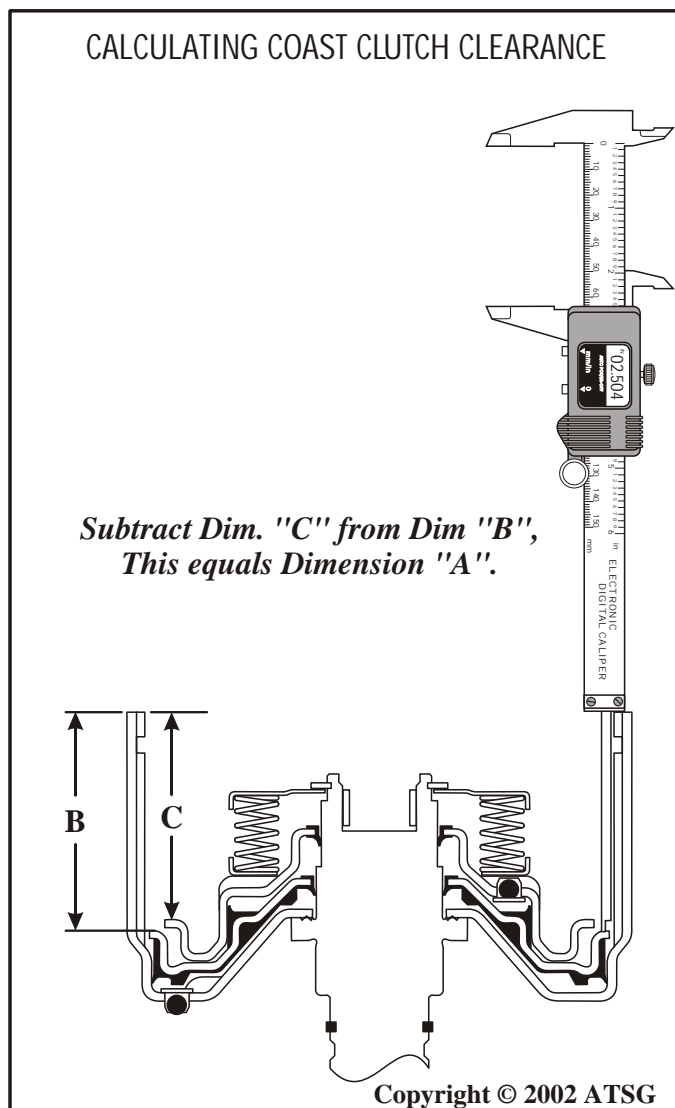

Figure 89
17. Measure from the top of the forward clutch housing to the top of the coast clutch piston, as shown in Figure 89.
18. Measure from the top of the forward clutch housing to the top of the forward clutch piston, as shown in Figure 89.